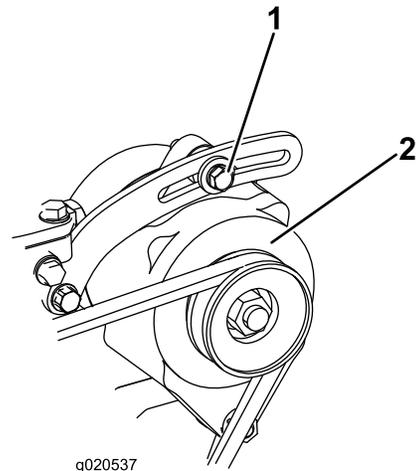

Figure 87
1. If the deflection is not 10 mm (3/8 inch), loosen the alternator mounting bolts (Figure 87).